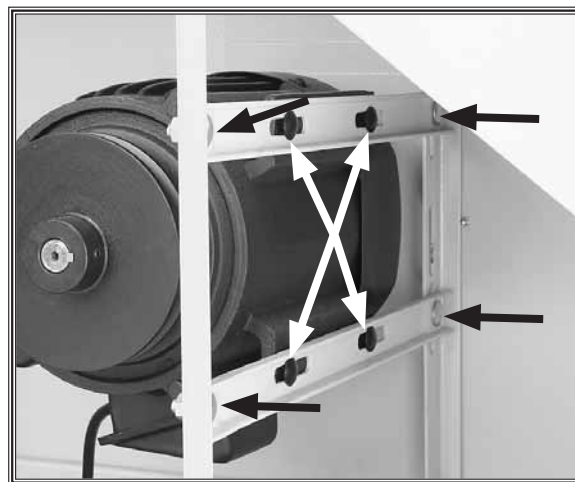

Figure 12. Motor bracket bolts (black arrows) and motor mount bolts (white arrows).
7. Loosen the motor bracket bolts shown in **Figure 12**.